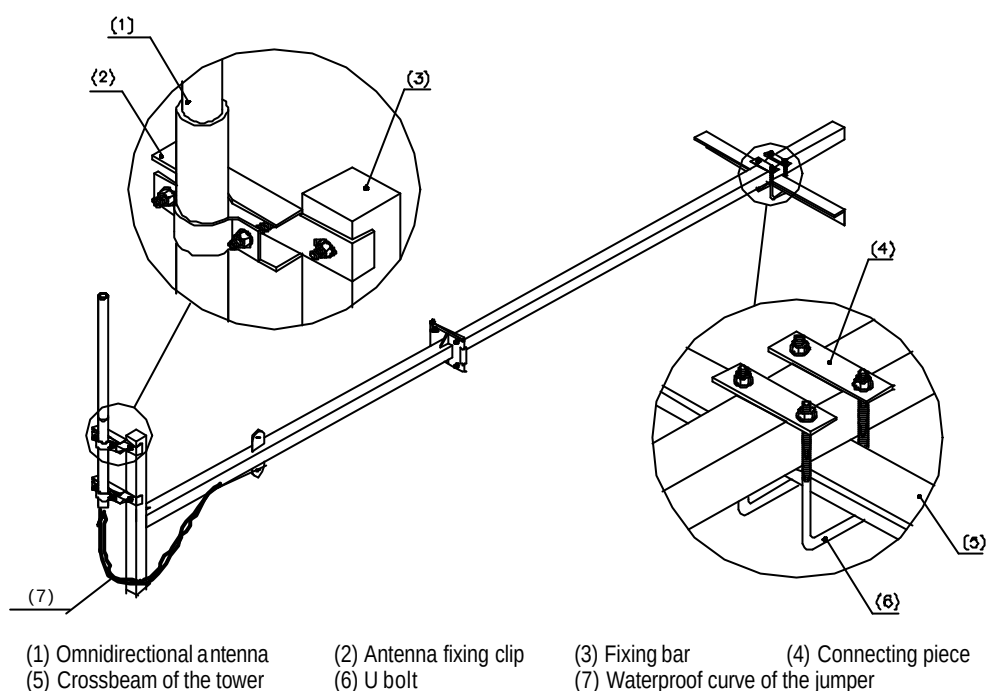

Figure 6-29 Installation of the omnidirectional antenna
- 2) Place the feeding point of the antenna facedown and the sheathing near the main supporting post of the stand, then fix the antenna to the fixing bar of the stand, as shown in the left part of Figure 6-29;